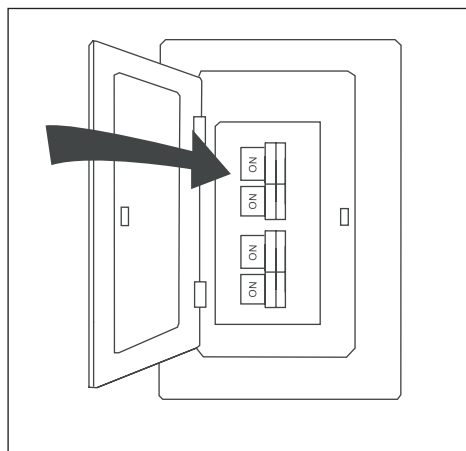

Figure 4.8
8. Turn on power to fan at breaker box and the wall switch (Figure 4.8). Assembly is complete.